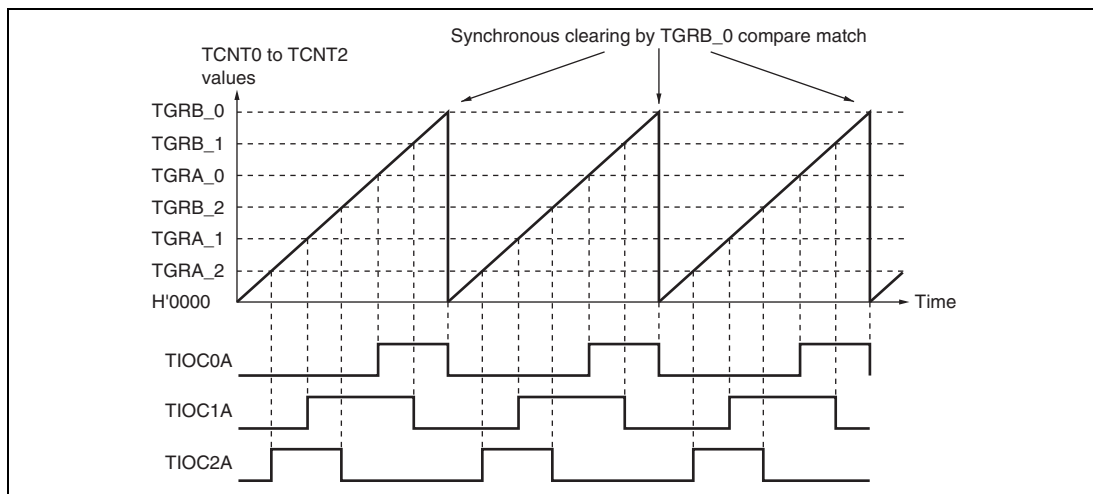

**Figure 11.12 Example of Synchronous Operation**
**Example of Synchronous Operation:** Figure 11.12 shows an example of synchronous operation.